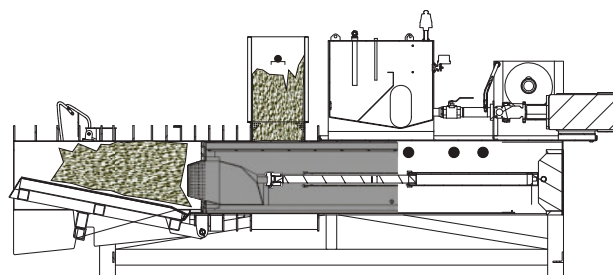

Figure 28 - Plunger Extends, Product Falling On Top Of Plunger
6. **PLUNGER STOPS** The plunger stops at full extension (home position), product piling on plunger. PROX 4, PROX 3 and PROX 2 are deactivated (see Figure 28- Pg. 21).
5. **PLUNGER STOPS** The plunger stops at full extension (home position), product piling on plunger. **PROX 4**, **PROX 3** and **PROX 2** are deactivated (see Figure 28).